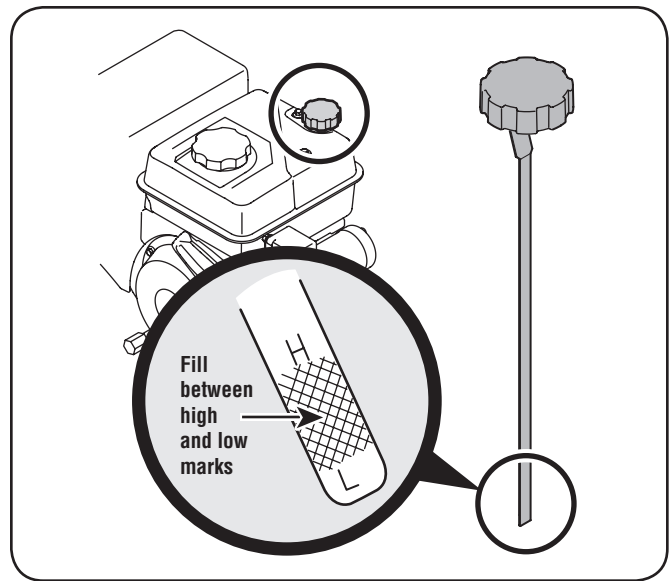

Figure 3-11
1. Remove the oil filler cap/dipstick and wipe the dipstick clean. See Fig. 3-11.
3. Remove the oil filler cap/dipstick. If the level is low, slowly add oil until oil level registers between high (H) and low (L), Fig. 3-11. Refer to the Engine Maintenance section for correct oil viscosity and engine oil capacity.